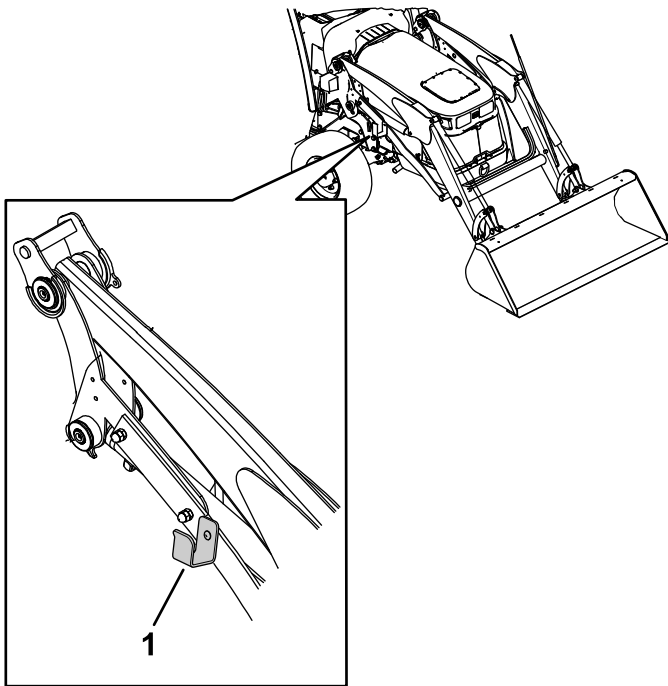

Figure 51
8. Place the hose bundle onto the hose-storage plate (Figure 51).